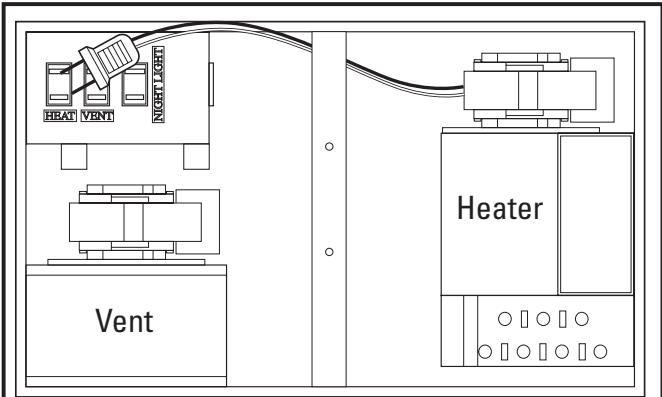
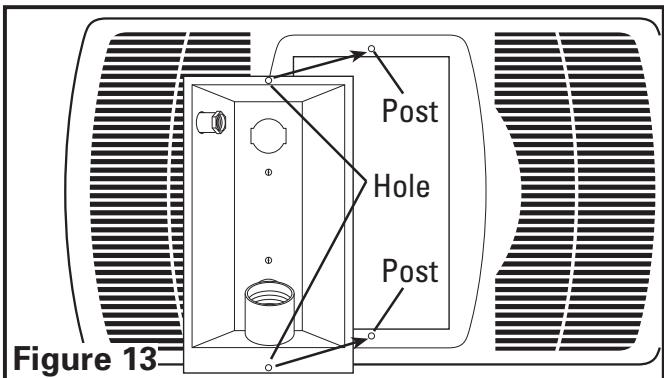

Figure 11
Figure 13
- Insert the plug from the heating unit into the receptacle marked "HEAT", and the plug from the fan into the receptacle marked "VENT" (Figure 11).
- Install light reflector into grill by lining up the posts on grill with the holes in light reflector (Figure 13). Raise light reflector and grill up to housing and insert plug from light into receptacle marked "LIGHT" (located on the side of the wire compartment) and insert plug from night light into receptacle marked "NIGHT LIGHT" (Figure 11).